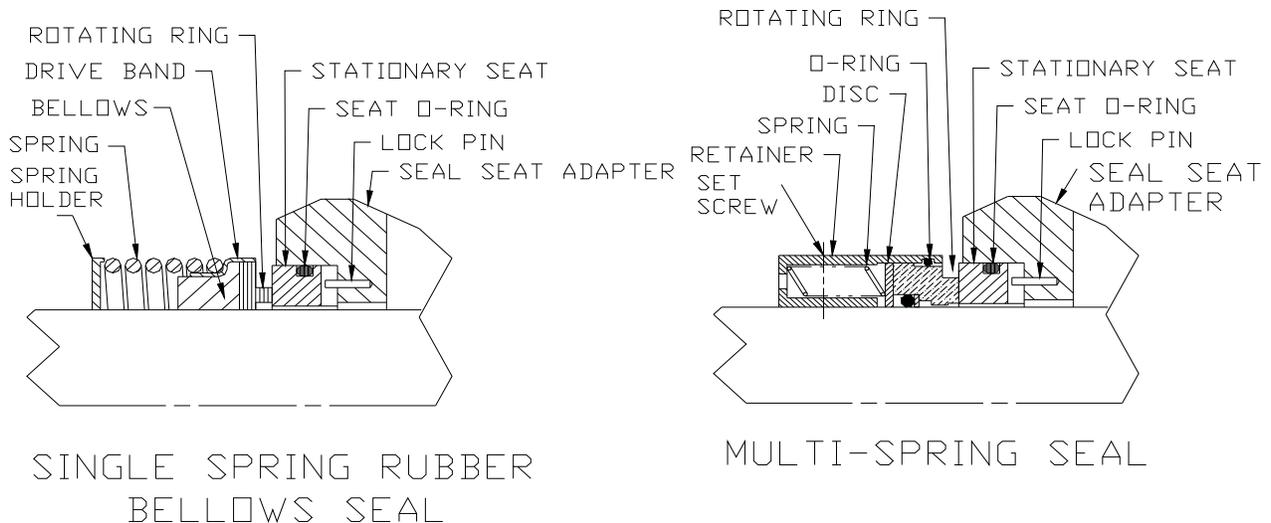
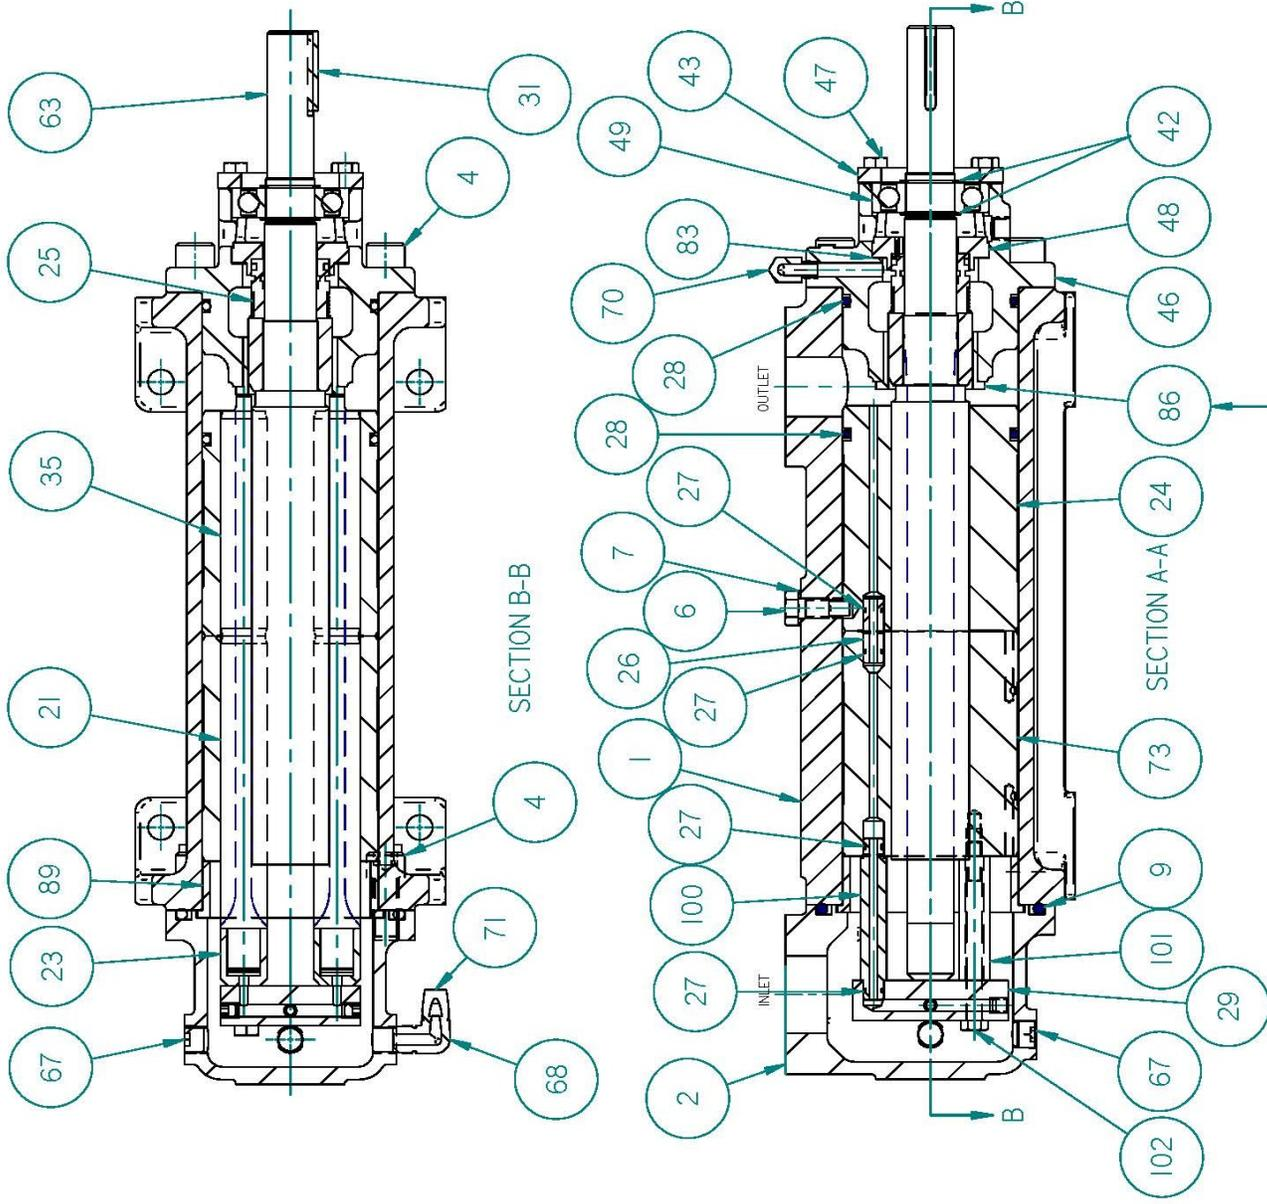

FIGURE 2 - Seal Drawing
FIG. 3 - G6D-187 FOOT MOUNT ASSEMBLY
1. Close suction and discharge valves. Drain pump by removing drain plugs (67). Remove seal tubing (71). Remove pump from driver, coupling and base plate. Remove coupling hub and key (31).
2. Remove bearing retainer (43) from inboard cover (46) by removing bolts (47).
3. Remove assembled power rotor (63) from inboard cover (46). Removal of power rotor (63) includes removal of snap rings (42), ball bearing (49), seal (25), seal seat adapter (48) and spacer (38) where applicable. If pump is DKH type, there will be a spacer (48) instead of a seal seat adapter and no seal (25).
4. Disassemble power rotor (63) as follows (See Figure 2 for seal drawings) :
- a. Using a flat nosed tool, such as a screw driver, remove snap rings (42) from grooves in power rotor (63) on both sides of bearing (49).
- b. Sealed ball bearing (49) is assembled to power rotor (63) with light press fit. Ball bearing (49) may be removed by using bearing puller or vertical arbor press. When using press, place two pieces of key stock through openings of mechanical seal seat adapter (48) underneath ball bearing (49) on both sides of power rotor shaft. Key stock should be long enough to support power rotor (63) as it is placed in press. Position press ram against power rotor (63) coupling end face. Gently press power rotor (63) through ball bearing (49).
2. Install O-ring (28) in groove in housing (24). Install O-rings (27) in grooves in tube (26) and install tube (26) in housing (24) on opposite side as O-ring (28).
3. Install housing (24), O-ring end first, in pump case (1) from suction end until stop pin (6) slot is properly aligned. Install stop pin (6) with fastener seal (7) in case (1).
4. Install housing (73) in pump case (1) with end that has two drilled and tapped holes facing inlet end of pump. Be sure that tube (26) in housing (24) mates to hole in housing (73). Install spacer (89) in case (1).
5. If DKH design, skip to step 7, otherwise clean and dry inboard cover (46) and balance piston bushing (86) mating surfaces with solvent. Wipe Loctite "T747" Primer or equivalent onto mating surfaces of bushing (86) and inboard cover (46). Allow 1 to 5 minutes until primer is visibly dry. Apply Loctite 609 or equivalent to bushing (86) and inboard cover (46) mating surfaces. Assemble bushing (86) into inboard cover (46). Allow 10 minutes to dry before proceeding with assembly.
6. Install O-ring (28) on inboard cover. Install inboard cover (46) in case (1) using bolts (4 or 93 if C-face pump). Ensure seal vent (70) is facing up. Torque bolts (4) to correct value in torque table 3.
8. Install O-rings (27) on tube (26) and tube (26) or (94) for foot mount size 312, in inboard cover (46). (Tube (94 and 26) on Size 218, 275 and 312 pumps do not take O-rings (27)
9. If pump is C-face version (Figure 3), proceed to next step, otherwise skip to step 12.
10. Clean and dry inboard cover (46) and balance piston bushing (86) mating surfaces with solvent. Wipe Loctite "T747" Primer or equivalent onto the mating surfaces of bushing (86) and inboard cover (46). Allow 1 to 5 minutes until primer is visibly dry. Apply Loctite 609 or equivalent to bushing (86) and inboard cover (46) mating surfaces. Assemble bushing (86) into inboard cover (46). Allow 10 minutes to dry before proceeding with assembly.
11. Install O-ring (11) (or (28) on 275 size) on inboard cover (46).
12. Install inboard cover (46) into discharge port side of case (1) using bolts (4). Ensure seal vent (70) is facing up on 218, 250 and 275 sizes and at 1 o'clock on 312 size facing shaft. Torque bolts (4) correct to values in torque table 3
13. Install O-ring (28) in groove in housing (24). Install O-rings (27) in groove in tube (26) and install tube (26) in ends of housing (24) opposite O-ring groove (28).
14. Install housing (24), O-ring end first, in pump case (1) from suction end being sure that hole in O-ring end of housing (24) lines up with tube (26 or 94) in inboard cover (46).
15. Install housing (73) in pump case (1) with the end that has the two drilled and tapped holes facing the inlet end of the pump. Be sure that tube (26) in housing (24) mates to hole in housing (73). Install snap rings (8) in case (1) behind housing (73)
16. Assemble power rotor (63) and mechanical seal (25) as follows (See seal drawings – Figure 2):
17. If pump is DKH type, there is no seal (25). In this case, first install inner snap ring on power rotor (42) and then bearing (49) on power rotor (63) pressing only on inner race of bearing (49) using an installation sleeve until it is located next to inner snap ring (42). Next install outer snap ring (42) on power rotor (63) and then spacer (48) into inboard cover (46). Skip to step 28
18. If pump is anything other than a DKH type, assemble spacer (38) onto power rotor (63) where applicable.
19. If seal is a single spring rubber bellows type, apply light coat of system fluid to inside diameter of bellows and slide mechanical seal rotating assembly on power rotor (63) until it seats against the shoulder of seal spacer (38). Wipe seal face with isopropyl alcohol and a lint free rag.
20. If seal is a multi-spring seal, coat O-ring inside of rotating seat with system fluid and slide mechanical seal rotating assembly on power rotor (63) until it seats against the shoulder of seal spacer (38). Tighten rotating seat set screws. Wipe seal face with isopropyl alcohol and a lint free rag.
21. Install O-ring in groove of mechanical seal stationary seat. Install seat including O-ring in seal seat adapter (48) ensuring that groove in back of stationary seat mates to spring pin in seal seat adapter (48). Clean seal face with isopropyl alcohol and lint free rag. Put small amount of clean system fluid or light oil on seal running face. Install stationary seat running face against rotating seat face.
22. Install inner snap ring (42) in groove of power rotor (63).
23. Press bearing (49) on power rotor (63), pressing only on inner race of bearing (49) using an installation sleeve until it is located next to inner snap ring (42).